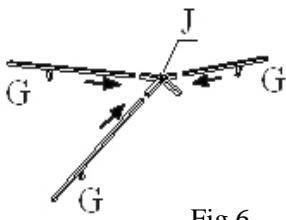
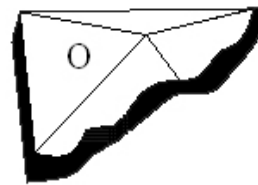
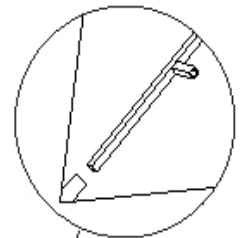
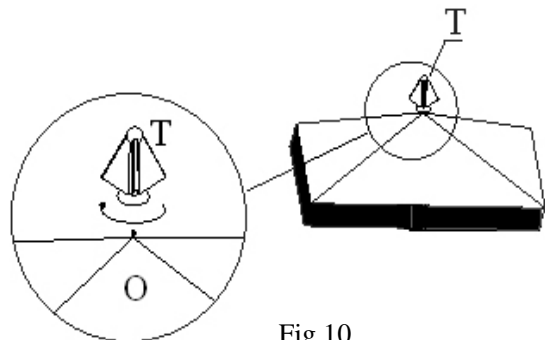

Fig.6
Fig.7
Fig.8
Fig.10
Step 6: Insert 3 Short Canopy Spokes (G) into the Upper Canopy Hub (J) first. See the Figure 6. Then install the Small Fabric Cover (O) on the 3 Short Canopy Spokes (G) and pull the 3 corresponding pouches of the Small Fabric Cover (O) onto the ends of the 3 Short Canopy Spokes (G). See the Figure 7. Pull the remaining pouch of the Small Fabric Cover (O) onto the end of the remaining Short Canopy Spoke (G). See the Figure 8. Then insert the remaining Short Canopy Spoke (G) into the Upper Canopy Hub (J). See the Figure 9. Make sure all snap buttons are in place. Screw the Top Finial (T) on the Upper Canopy Hub (J). See the Figure 10.